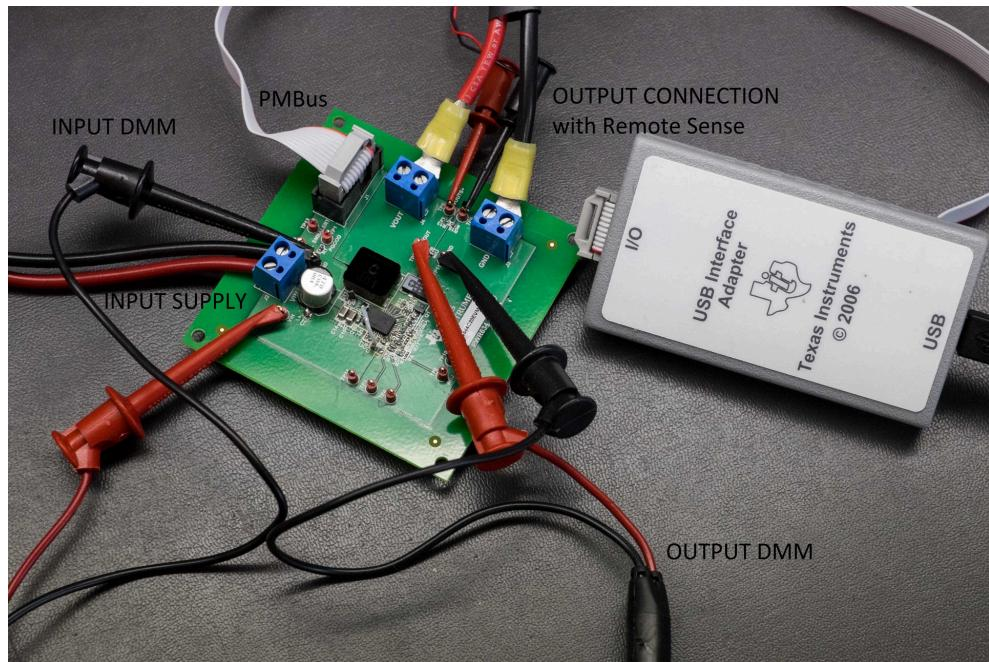

Figure 4-2. Complete Test Setup Including Texas Instruments USB-to-GPIO Adapter
The Fusion Digital Power Designer is the graphical user interface (GUI) used to configure and monitor the Texas Instruments TPS544B20 or TPS544C20 power converter installed on this evaluation module. The application uses the PMBus protocol to communicate with the controller over serial bus by way of a TI USB adapter (see Figure 4-2).
USB-to-GPIO Interface Adapter: A communications adapter is required between the EVM and the host computer. This EVM was designed to use the Texas Instruments USB-to-GPIO Adapter (see Figure 4-2). This adapter can be purchased at <http://www.ti.com/tool/usb-to-gpio>.
2. Apply the input voltage to the EVM. See Figure 4-1 and Figure 4-2 for connections and test setup.